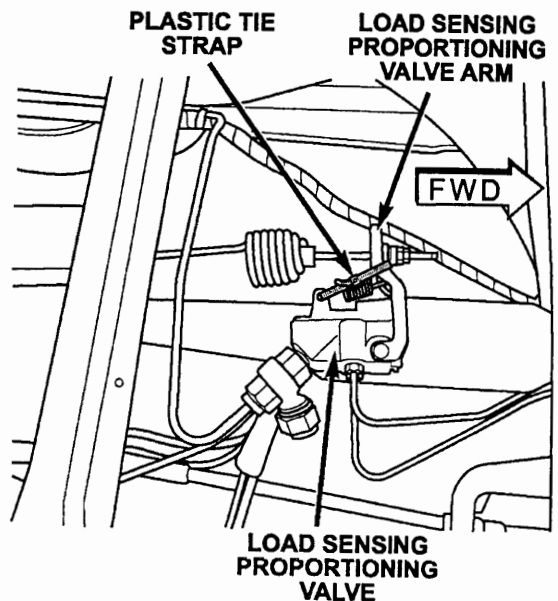

Figure 4 – Top View
11. **For 3500 series vehicles**, temporarily install a plastic tie strap so that the load sensing proportioning valve arm is held against the proportioning valve (Figure 4).
15. Repeat Steps 12 through 14 four (4) additional times.
16. **For 3500 series vehicles**, remove and discard the plastic tie strap from the load sensing proportioning valve (Figure 4).